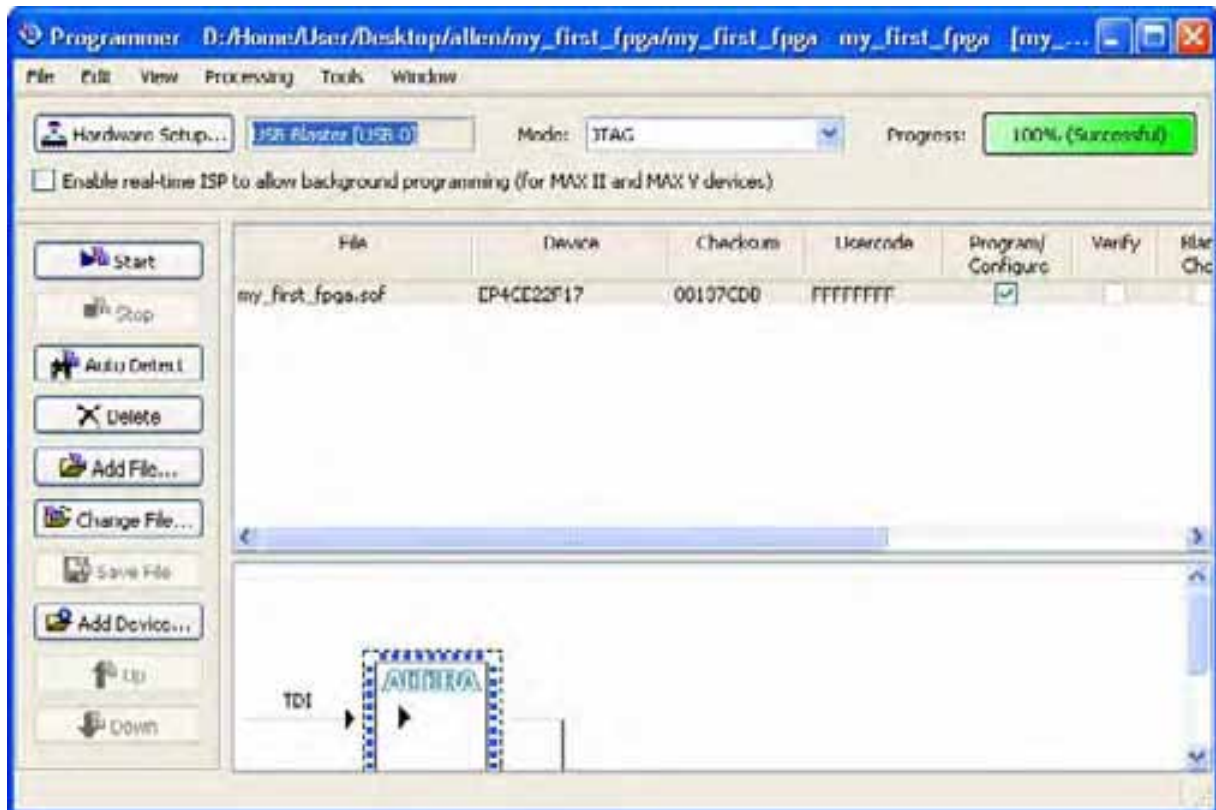

Figure 6-48 Downloading Complete
6. Select the my_first_fpga.sof file from the project directory (see Figure 6-48).